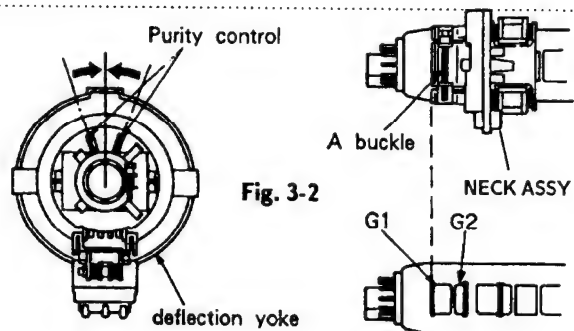

Fig. 3-2
2. Position neck ass'y as shown in Fig 3-2.